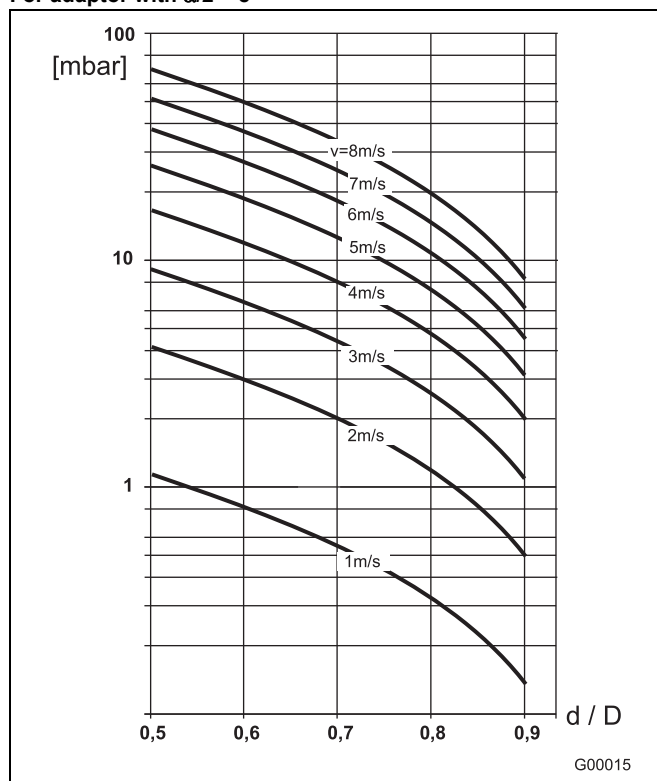

Fig. 25
2. Determine the flow velocity based on the flow range nomograph (Fig. 25).
3. Read the pressure drop on the Y-axis in Fig. 25.